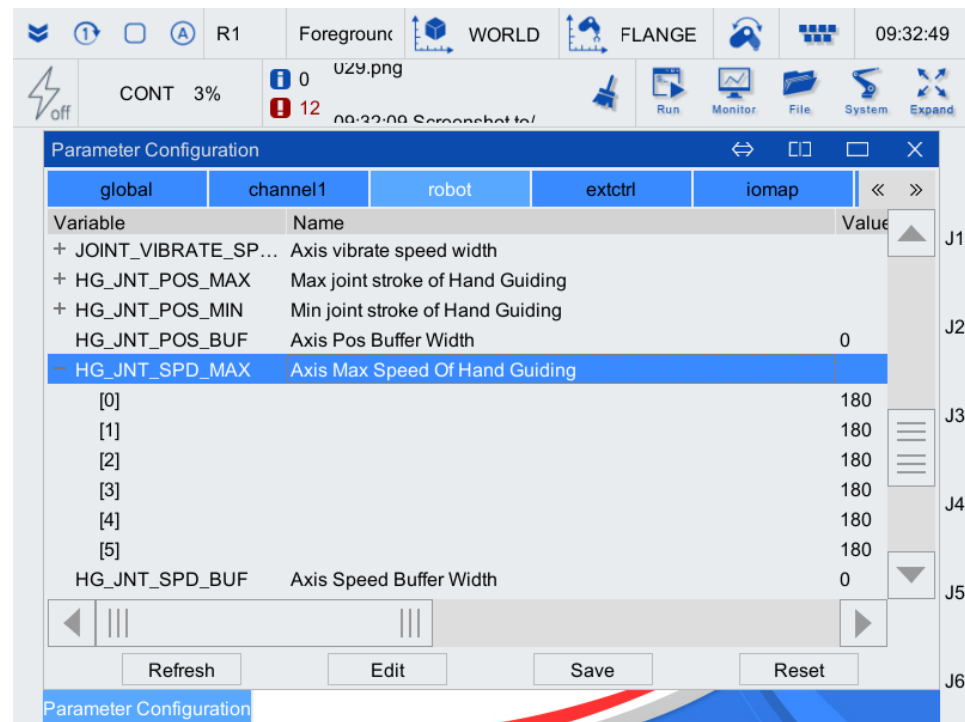

Figure 5-16 Maximum allowable angular velocity parameter setting interface for dragging
Step3. Enter the parameter configuration interface, select the [robot] tab, as shown in Figure 5-16, click and select the [HG_JNT_SPD_MAX] sub item to be configured (6 sub item data correspond to 1-6 axes respectively), and click <Edit>.